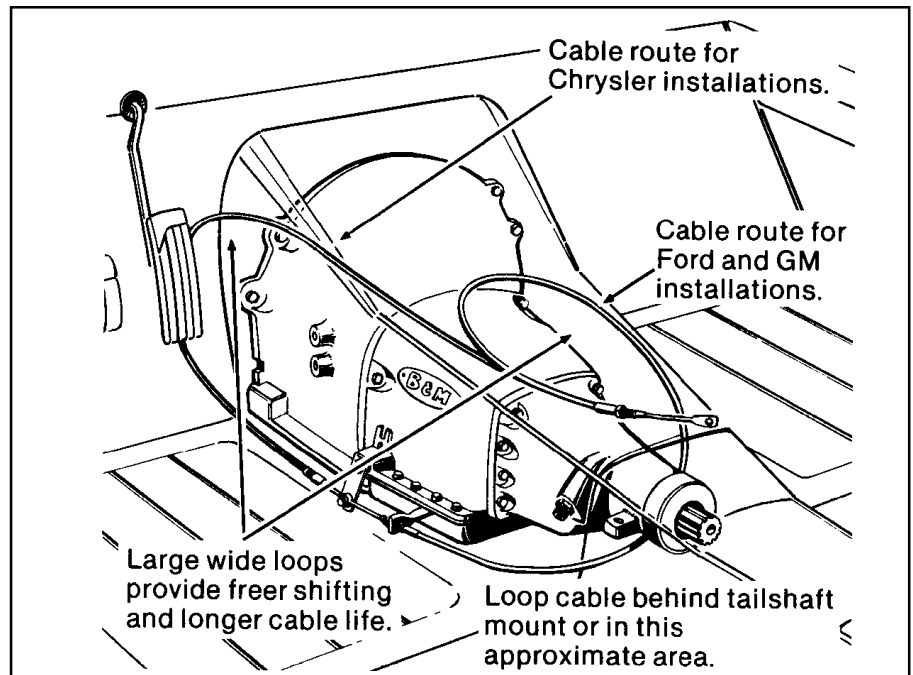

Figure 4
ROUTE THE CABLE AS SHOWN IN FIGURE 4, AVOID SHARP BENDS WHICH WILL KINK AND DAMAGE THE CABLE. Use cable clamps or tie wraps to secure the cable housing to the chassis to avoid contact with hot engine or exhaust system.
STEP 12. Route the shifter cable according to Figure 4. Avoid kinks and sharp bends and route the cable away from hot engine or exhaust parts.
STEP 18. Route the shifter cable according to Figure 4. Avoid kinks and sharp
STEP 23. Route the shifter cable according to Figure 4. Avoid kinks and sharp bends and route the cable away from hot engine or exhaust parts.